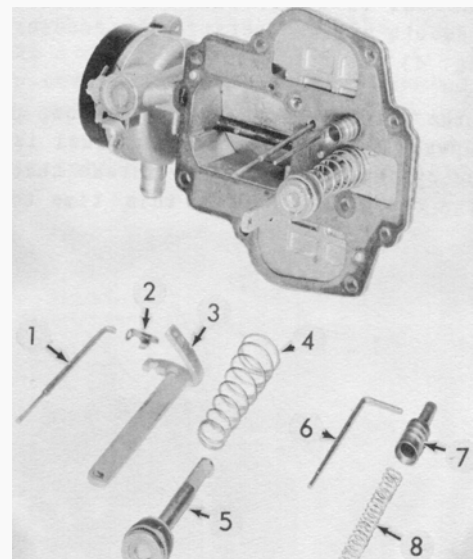

Fig. 9
Remove the step-up jet piston, (7, Fig. 9) rod (6) and spring from the carburetor bowl . .
Push the accelerator pump piston toward the cover and disconnect from the actuating link, remove the pump piston (5, Fig. 9) and actuating link (3). **Remove** the pump spring (4) from the pump piston rod.